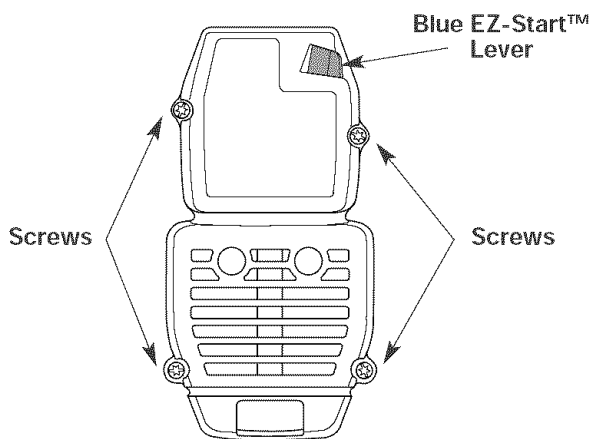

Fig. 24
1. Remove the four (4) screws securing the air filter/muffler cover (Fig. 24). Use a flat blade or T20 Torx bit screwdriver.
2. Insert the four (4) screws into the holes in the air filter/muffler cover (Fig. 24) and tighten.